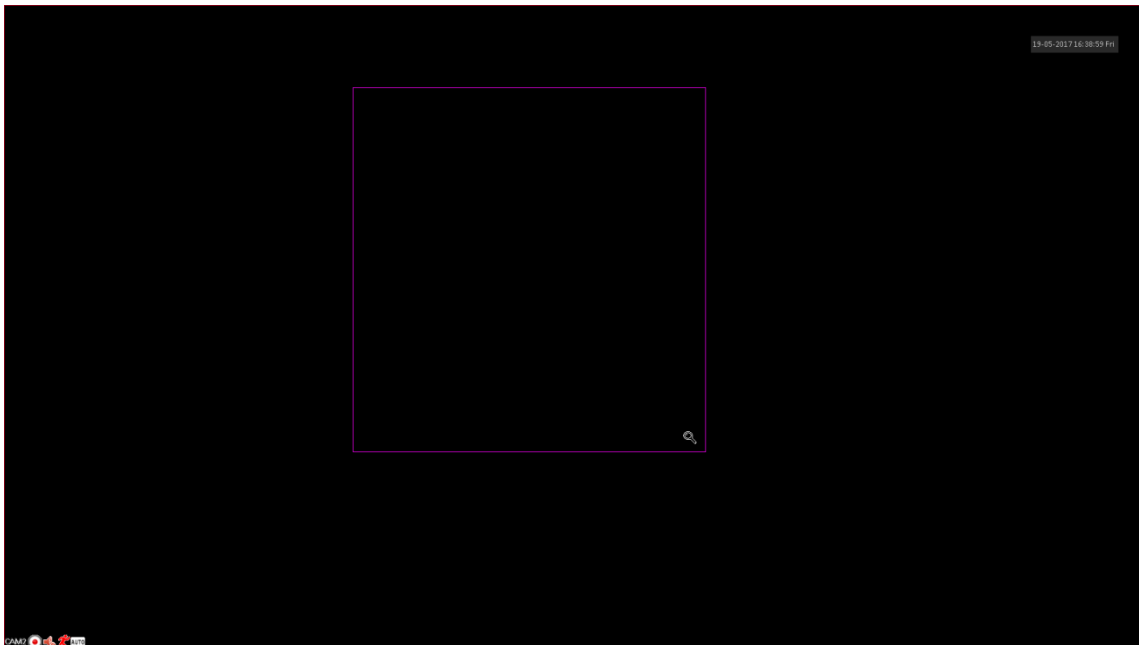

Figure 3.14
- **Digital Zoom** - It is to zoom in specified zone of current channel. Please drag mouse with left click to select a zone and then click in selected zone. you can view an interface show as Figure 3.14